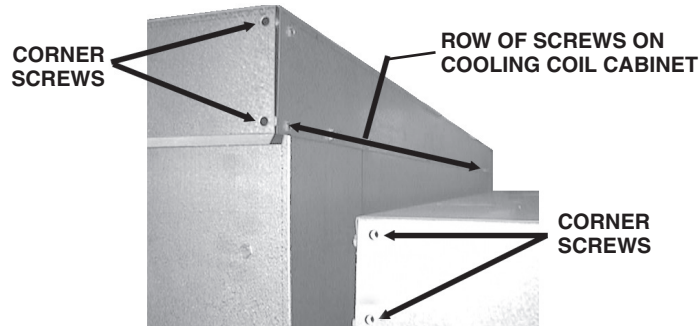

Figure 6. Cooling Coil Cabinet Screw Removal
a. Remove cabinet panels (see Figure 6):
- (1) At side corners of both cooling coil cabinet and furnace, remove factory-installed screws that secure cabinet tops.
- (2) Remove row of screws across edge of cooling coil cabinet that secure cabinet top.